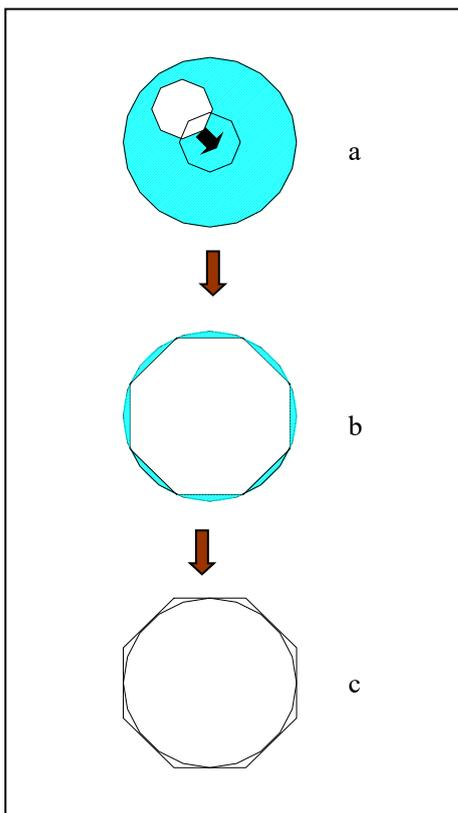

Fig.23
### 3-19 Diaphragm against mid-field view (Fig.23, 24)
5. Pull the lever ③ out of the field diaphragm on the lighting device until the aperture diaphragm is at its minimum diameter.
6. Use a hexagonal wrench to insert the two field diaphragm into the center screw ②, adjust the image to the aperture to be located in the center of the field of view (Fig.23 shows the adjustment process).
7. Push the pull rod ③ along the aperture of the field and open the aperture until the image of the aperture and the perimeter of the field of view are inscribed. If the image is not correctly aligned, re-align until it is centered.
8. Open the wide field of view diaphragm so that the image is exactly connected to the field of view (c in Fig. 23).